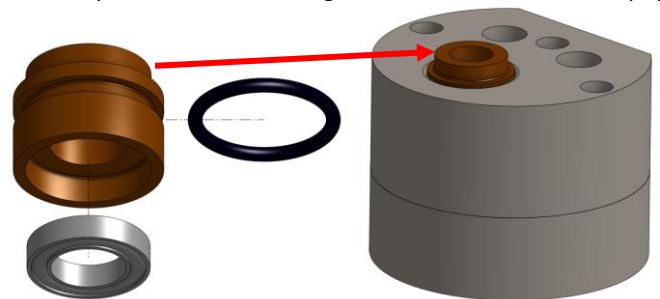

Figure 6
5. Flip heads over and assemble plunger guide, u-cup and O16 o-ring. Lightly grease o-ring and slide around divot on guide. Press u-cup in bottom of guide oriented as seen in Fig. 6. Press part combo in stuffing box. Should feel a suction/pop.